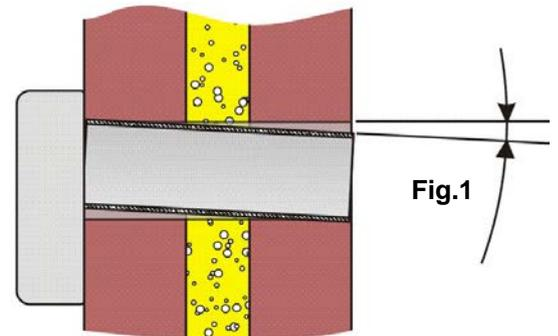

Fig.2
3) Undo 2 fixing screws and lift off Cover Plate Fig 2 & 3